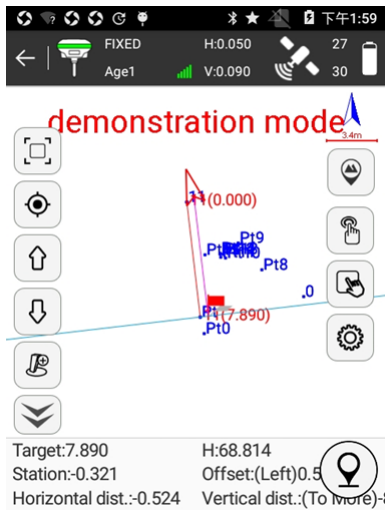
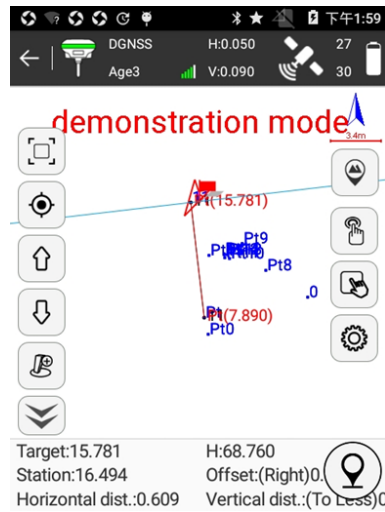

Figure 5.15-1
Figure 5.15-2
Press [Survey]-> [Existing Stakeout] and select an existing line to stakeout as shown in Figure 5.15-1.
- (1) Enter Stake Existing Lines and set start line or import line files.
- (2) Select target line and press [OK] to enter stakeout interface as shown in Figure 5.15-1. The normal line is generated at the center point, which is conducive to measuring cross section. The vertical line of normal line is formed by overturning the front point, which can help to distinguish the direction.
- (3) Measure cross section of mileage at current point according to line mileage, line offset, horizontal distance and vertical distance in bottom status.
- (4) Press  to collect data at current coordinate, that is, cross section.
- (5) Press  to connect end point and current point of stakeout line as shown in Figure 5.15-2. Press Stake Existing Lines and it can view parameters of connection line.
- (6) Move current point and repeat step 4 and 5 until complete all existing line stakeout.
- (7) The adjacent center points can be switched automatically by  and  keys to measure cross section.